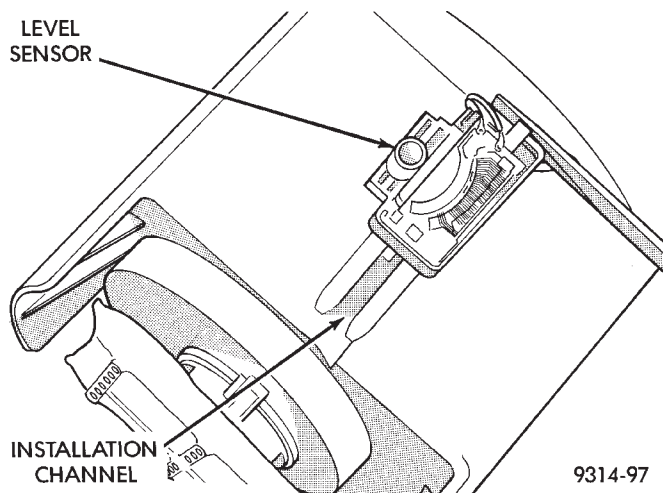

Fig. 34 Fuel Level Sensor Removal
(4) Insert a screwdriver between the fuel pump module and the top of the level sensor housing (Fig. 34). Push level sensor down slightly.
(6) Slide level sensor out of installation channel (Fig. 34).